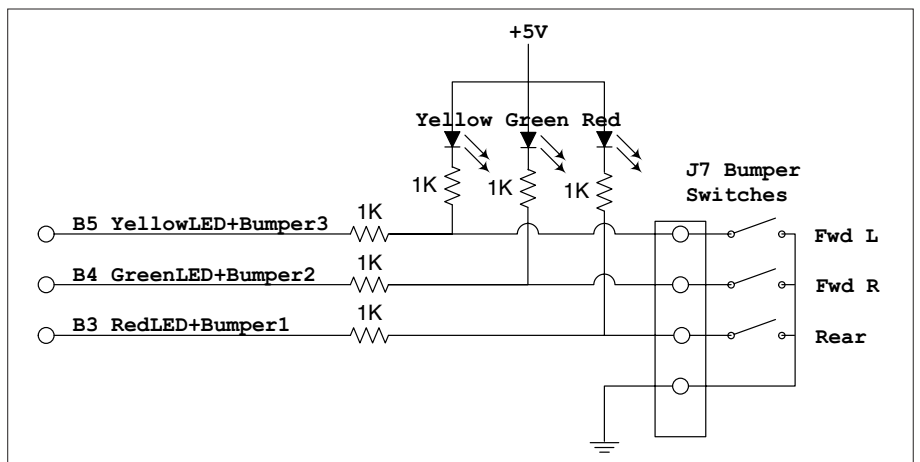

FIGURE 10. LEDs + Bumpers
- Pins 10-14 (port B5-B3) do double duty, in order to conserve I/O ports (Figure 10). They serve as LED outputs for status reporting and also as inputs for reading the bumper for collisions.